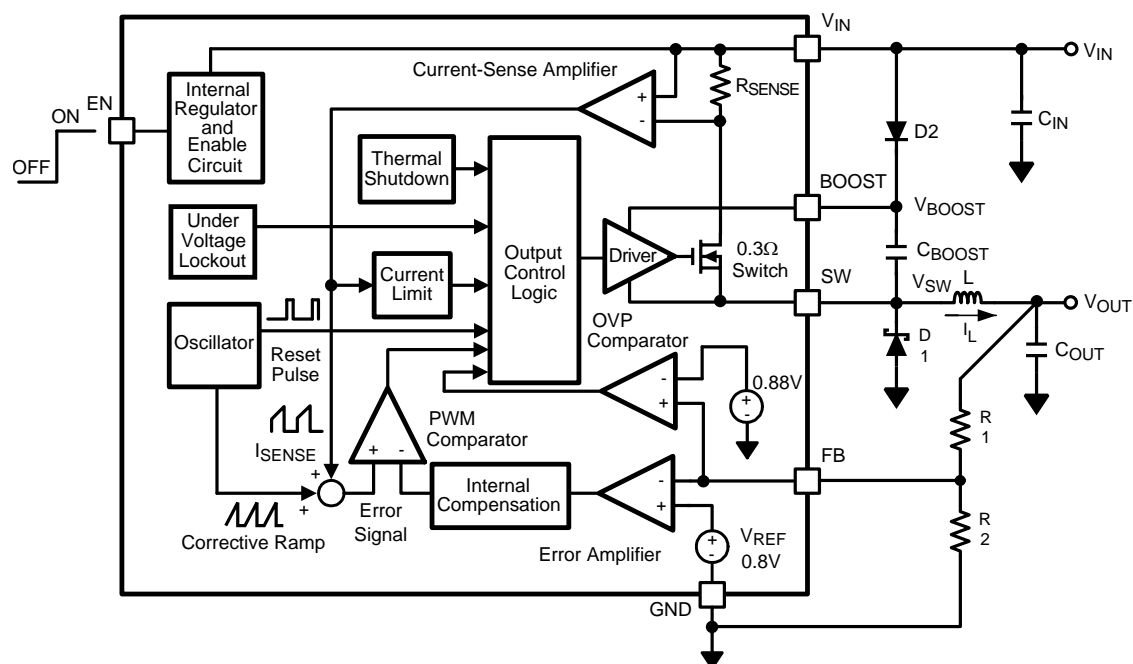
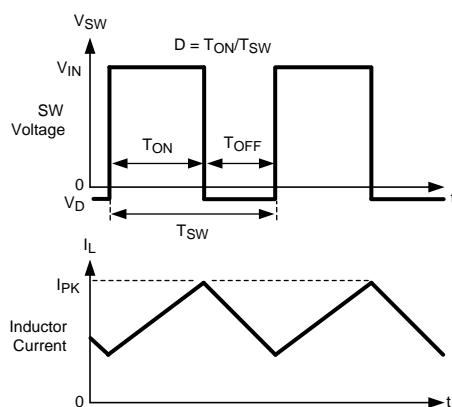

Figure 22.
Figure 23. LM2734 Waveforms of SW Pin Voltage and Inductor Current
The following operating description of the LM2734 will refer to the Simplified Block Diagram (Figure 22) and to the waveforms in Figure 23. The LM2734 supplies a regulated output voltage by switching the internal NMOS control switch at constant frequency and variable duty cycle. A switching cycle begins at the falling edge of the reset pulse generated by the internal oscillator. When this pulse goes low, the output control logic turns on the internal NMOS control switch. During this on-time, the SW pin voltage (V_{SW}) swings up to approximately V_{IN} , and the inductor current (I_L) increases with a linear slope. I_L is measured by the current-sense amplifier, which generates an output proportional to the switch current. The sense signal is summed with the regulator's corrective ramp and compared to the error amplifier's output, which is proportional to the difference between the feedback voltage and V_{REF} . When the PWM comparator output goes high, the output switch turns off until the next switching cycle begins. During the switch off-time, inductor current discharges through Schottky diode D1, which forces the SW pin to swing below ground by the forward voltage (V_D) of the catch diode. The regulator loop adjusts the duty cycle (D) to maintain a constant output voltage.
In the Simplified Block Diagram of Figure 22, capacitor C_{BOOST} and diode D2 supply the gate-drive current for the NMOS switch. Capacitor C_{BOOST} is charged via diode D2 by V_{IN} . During a normal switching cycle, when the internal NMOS control switch is off (T_{OFF}) (refer to Figure 23), V_{BOOST} equals V_{IN} minus the forward voltage of D2 (V_{FD2}), during which the current in the inductor (L) forward biases the Schottky diode D1 (V_{FD1}). Therefore the voltage stored across C_{BOOST} is